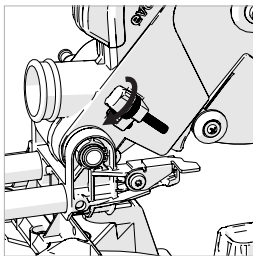

Fig. 26c
- Adjust the thumb - screw (**Fig. 26c**) to limit the cutting heads travel to the required depth.